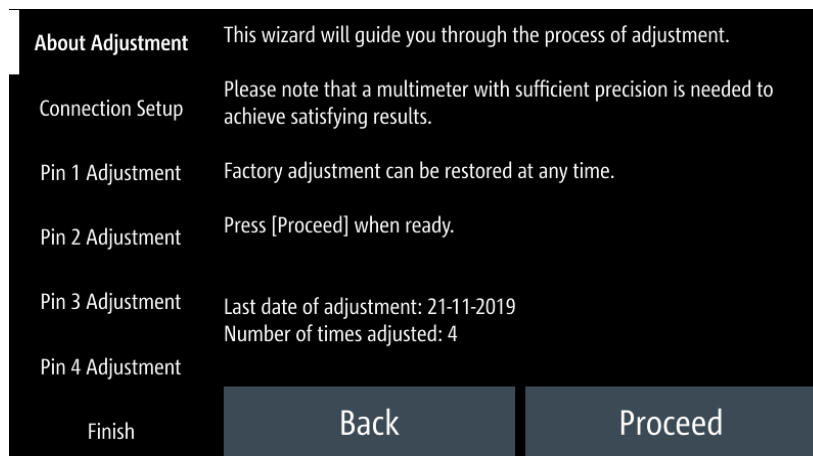

Figure 7-67: Analog in adjustment wizard
5. Follow the on-screen instructions displayed in Figure 7-67. Supply the required voltage to the analog input and key in the measured value from DMM using the on-screen keypad. See Figure 7-68.